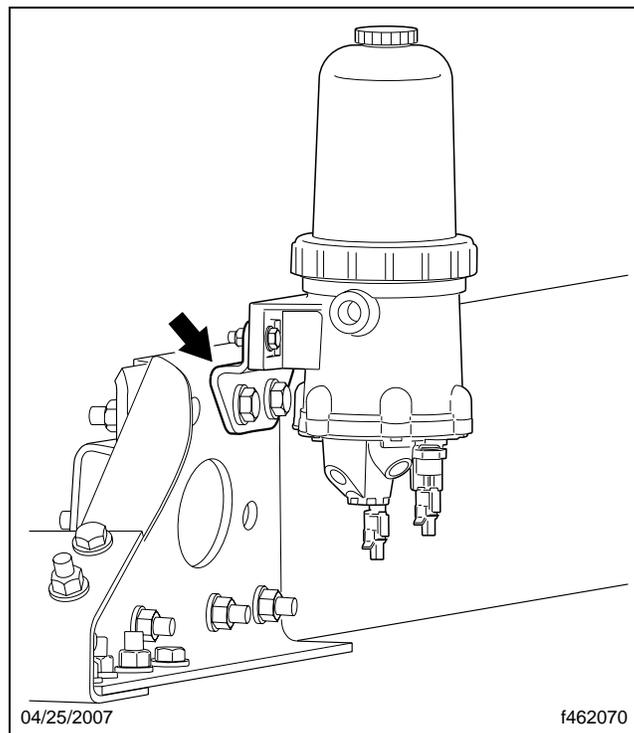

Fig. 5, Fuel/Water Separator Mounting Bracket
25. Install the fuel/water separator in the new location, as shown in **Fig. 5**.